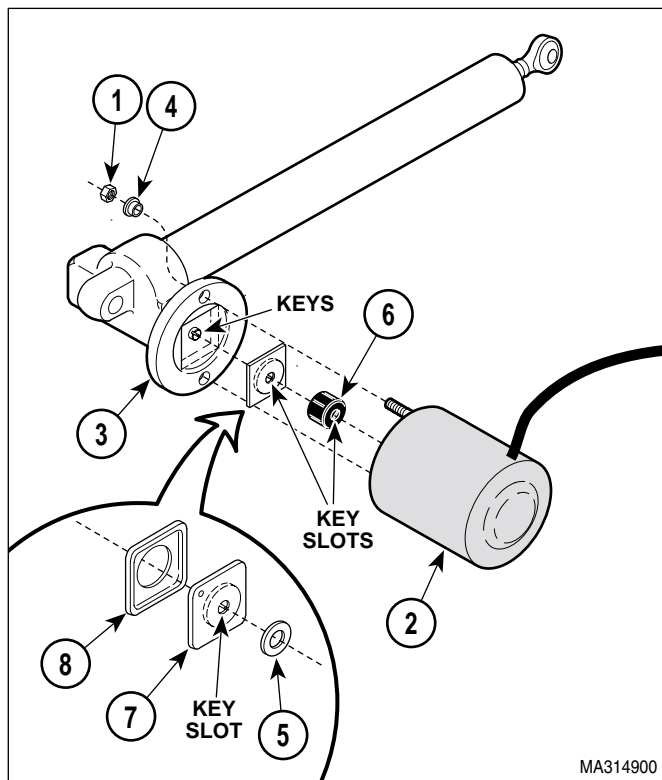

Figure 4-20. Actuator Motor / Actuator Brake Removal / Installation
- (2) Remove two nuts (1, Figure 4-20) and actuator motor (2) from actuator mechanism (3).
- (3) Remove two shoulder washers (4) from actuator mechanism (3).
- (4) Remove spacer (5) and motor coupler (6) from shaft of actuator motor (2).